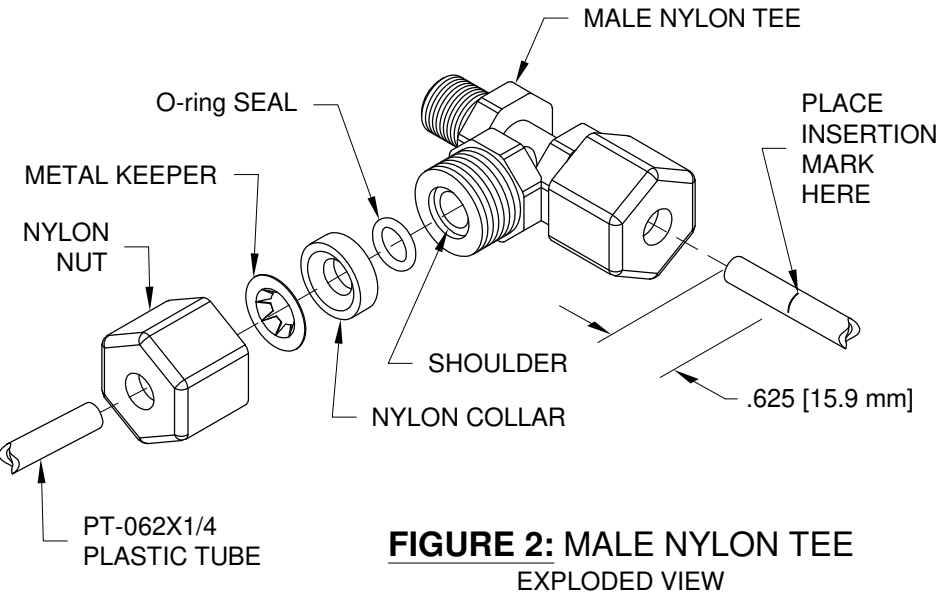

FIGURE 2: MALE NYLON TEE
Step 2: Place insertion mark .625 [15.9 mm] from end of tube. See Figure 2. Moisten marked end of tube with water.